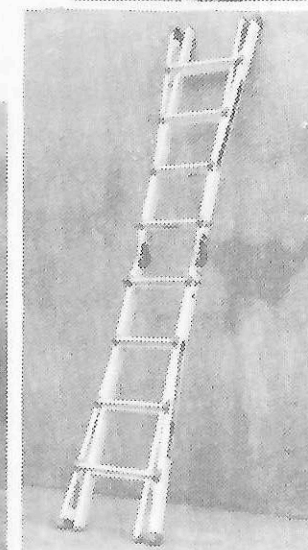

Figure A-4
3. Extension Ladder position (FIGURE A-4)